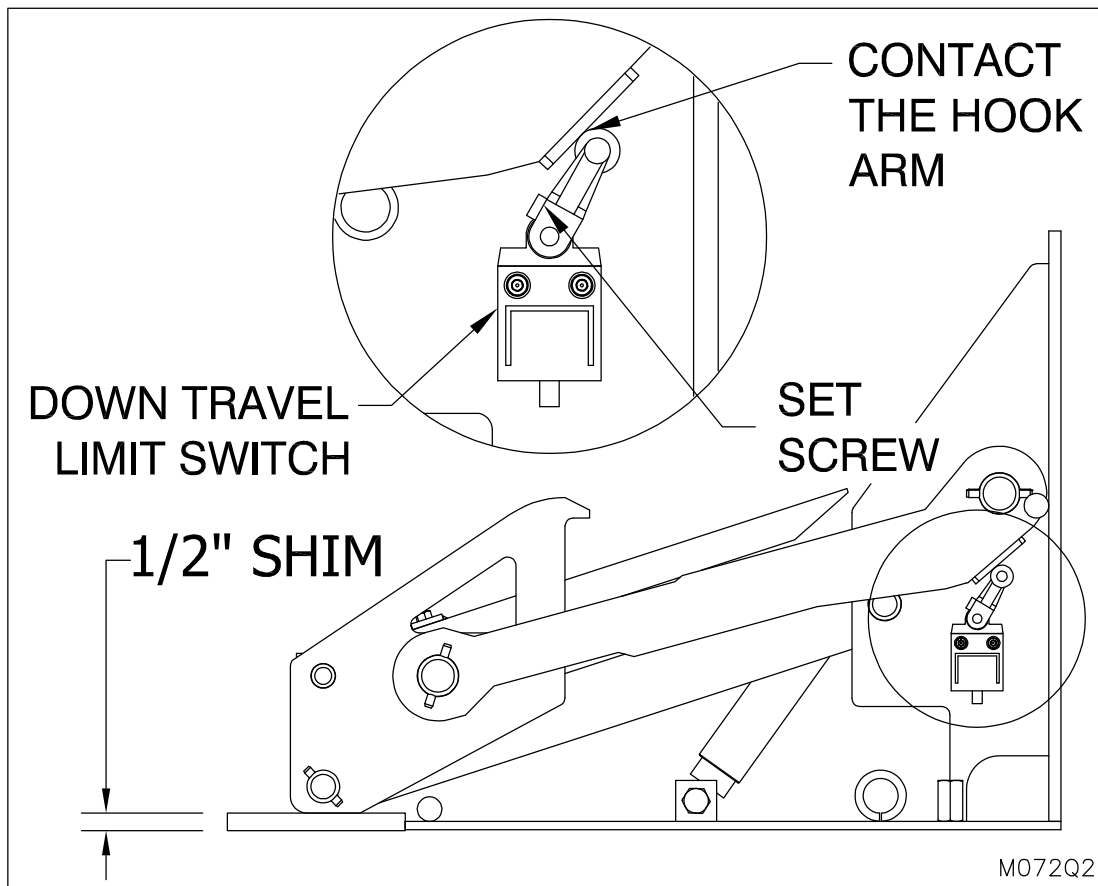

Figure 22: Setting the Down Travel Limit Switch
- Raise the restraint and place a 1/2" shim under the hooking arm (See "Figure 22: Setting the Down Travel Limit Switch" on page 30).